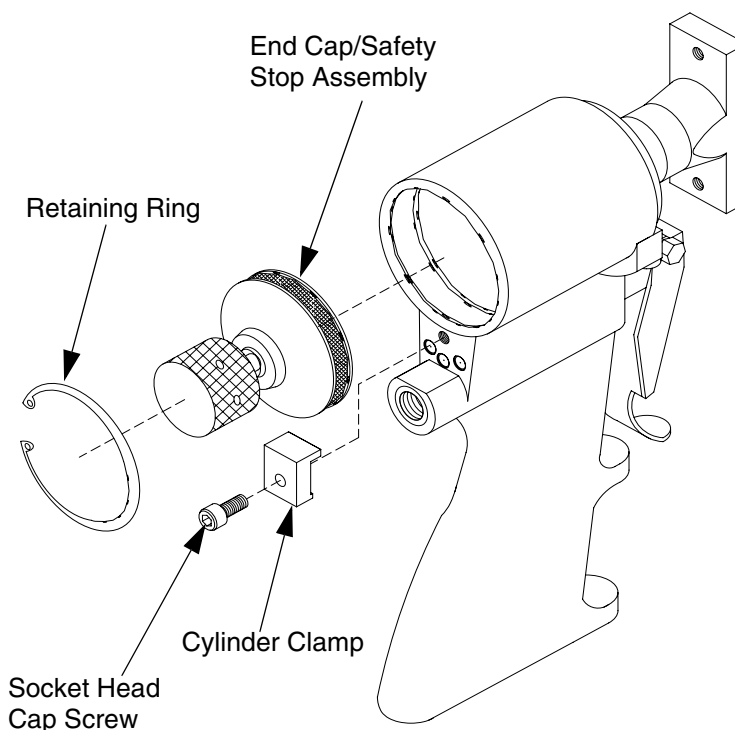

FIG. 13. End Cap Assembly
4. See FIG. 13. Use a retaining ring pliers to remove retaining ring. Ring retains end cap position in air cylinder.
10. Center piston spring over raised portion of piston. Align raised portion of end cap with inside diameter of piston spring. Insert end cap into air cylinder. Press end cap until it moves past undercut groove in air cylinder, which is where retaining ring nests. Maintain pressure on end cap, ensure groove remains visible, and install retaining ring using retaining ring pliers. See FIG. 13.